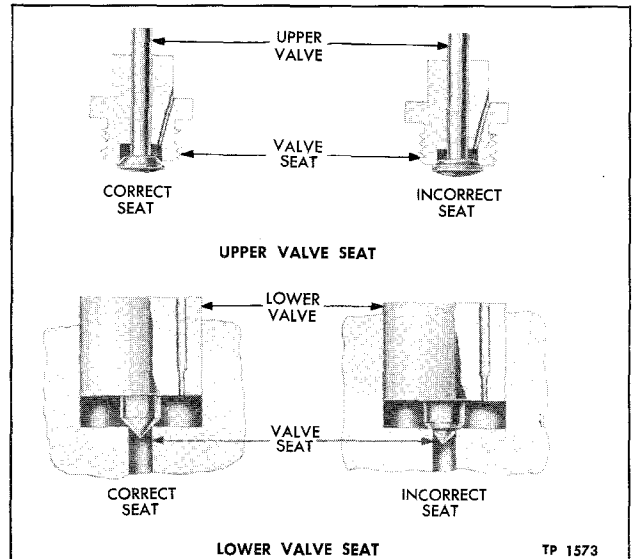

Figure 28—Correct and Incorrect Governor Valve Seats
3. Inspect seat on upper valve and upper valve guide for wear or damage. Also check fit of upper valve stem in upper valve guide. If the seat on the upper valve shows a decided groove from wear (fig. 28), or if the upper valve stem is not a neat sliding fit in the upper valve guide, the upper valve and valve guide must be replaced as an assembly.
4. Inspect lower valve for wear or damage. If the valve is grooved excessively (fig. 28), it must be replaced. Check fit of lower valve in governor body. It must be a neat sliding fit. If clearance is excessive, lower valve must be replaced.